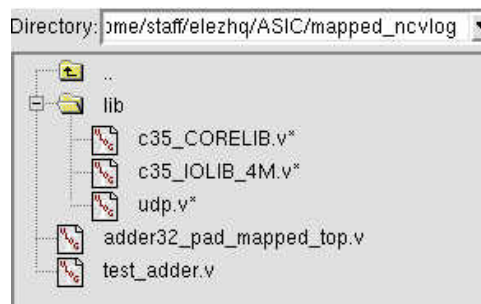

Figure 5-2 Start up of pre-layout verification.
1. Start NCLaunch in the working directory – mapped\_ncvlog as follows. You should see the files as figure 5-2 in the NCLaunch window.